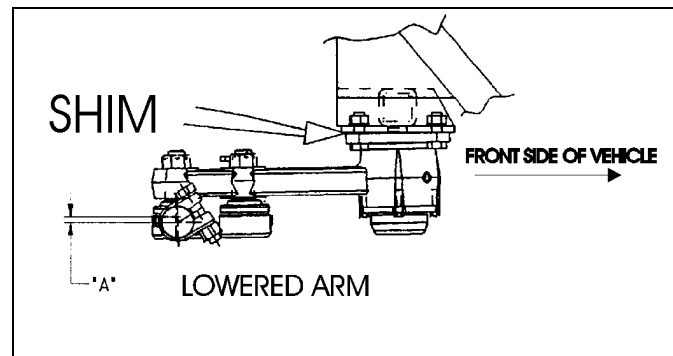

FIGURE 9
13. Install shim on rear side of vehicle to lower the arm (Fig. 9).